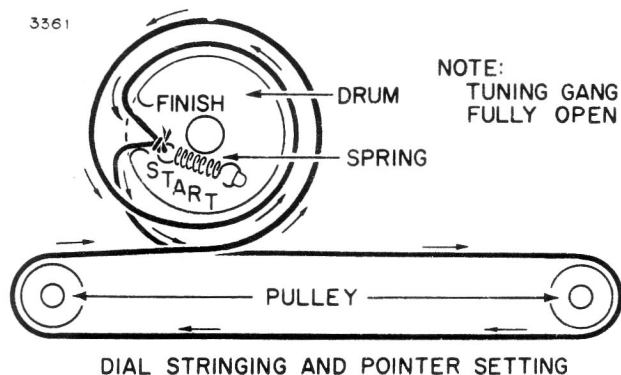

Figure 3. Dial Stringing
2. Instructions for stringing dial are given in figure 3. Note that dial assembly is viewed from rear.